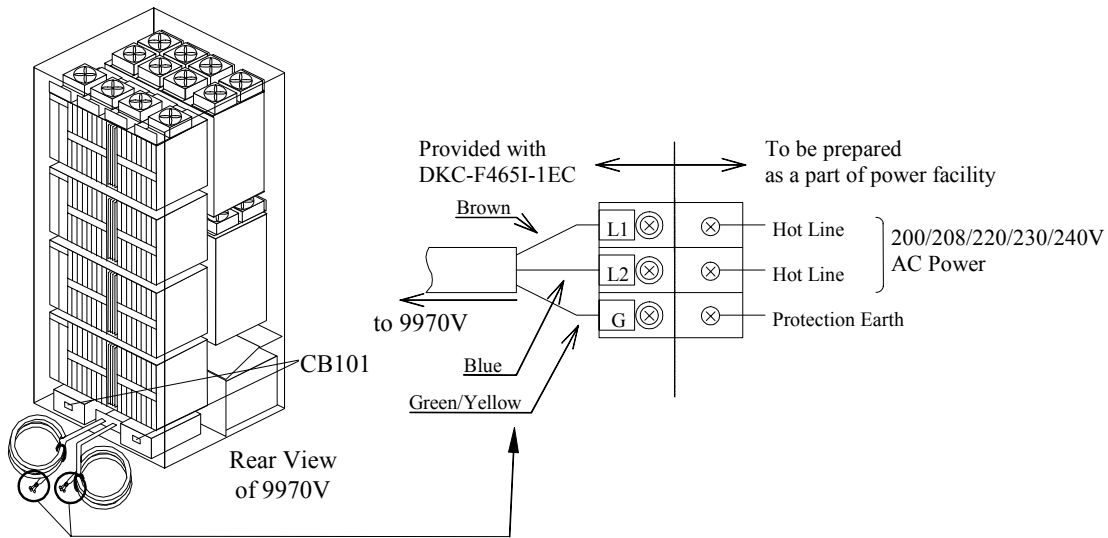

Figure 5.26 Power Plugs for a Single-Phase 9970V Subsystem (Europe)
- Figure 5.26 illustrates the power plugs for a single-phase 9970V subsystem (Europe).